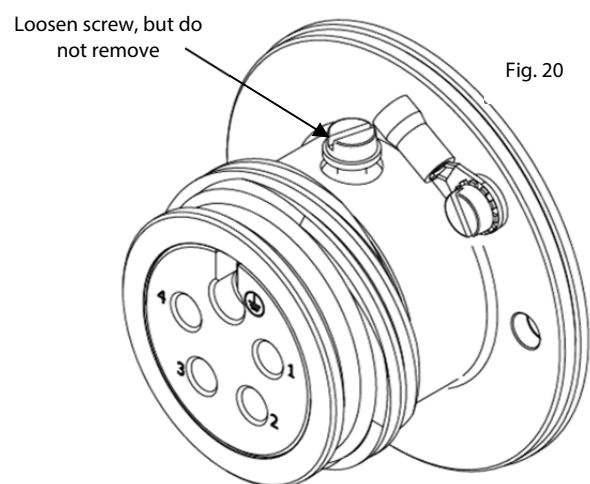

Fig. 20
- 20) Once the connector plug has been unpackaged the insert must be removed to allow for assembly. Loosening the screw on the body of the connector as shown in Fig.20 below until the insert is free to be removed from the connector. **Do not** fully remove the screw. Safely store insert until required.